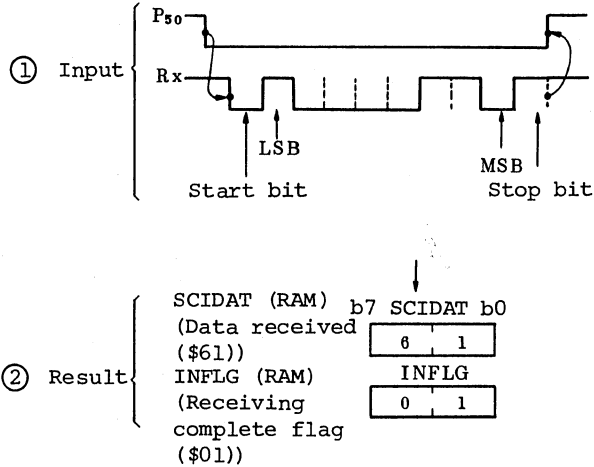

Figure 10-5. Example of SCIIN Execution
b. Example of SCIIN execution is shown in figure 10-5. If bit 0 of port5 (signal  $\overline{RTS}$ ) is set to Low, data sent from the console typewriter is stored in SCIDAT (RAM).